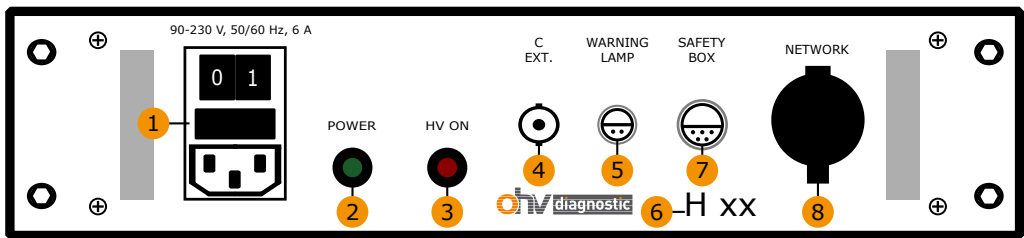

Figure 5.4: Available connections on the control unit (H-Series)
- 7 Connect control unit to power supply (ref. to Figure 5.4).
- 8 Connect remote laptop to control unit via Ethernet cable (ref. to Figure 5.4).
- 9 Connect safety box to control unit (ref. to Figure 5.4).
In Figure 5.4 all available connectors and labels are marked on the control unit with 1 to 8. Each of them will be described in Table 5.2.